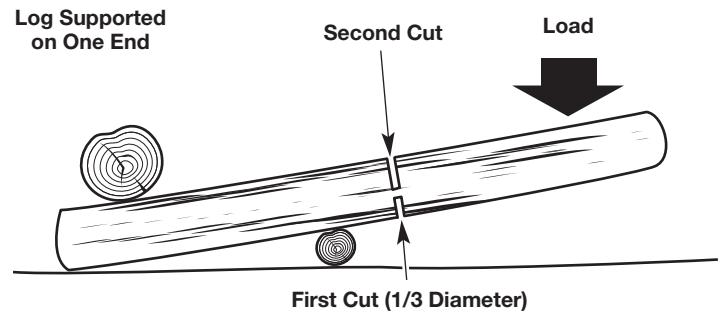

Fig. 14
- If the log is supported on one end (Fig. 14), make the first cut from below (underbucking). Refer to *Underbucking*.